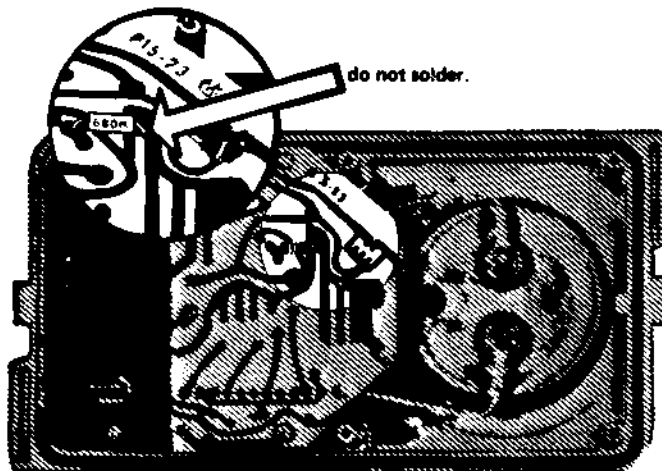

Figure 9.1-1. R-9 on Foil Side of PC Board
| Figure 9.1-1 | R-9 on Foil Side of PC Board                                | 9.1-2  |
1. Remove resistor R-9 and visually inspect it. If color-coded 470K ohms, replace with a 680K-ohm resistor. Install replacement 680K-ohm resistor with resistor body on the foil side of the PC board. Do not solder resistor lead to the guard ring connection on the PC board. This step will be accomplished later (see Figure 9.1-1).